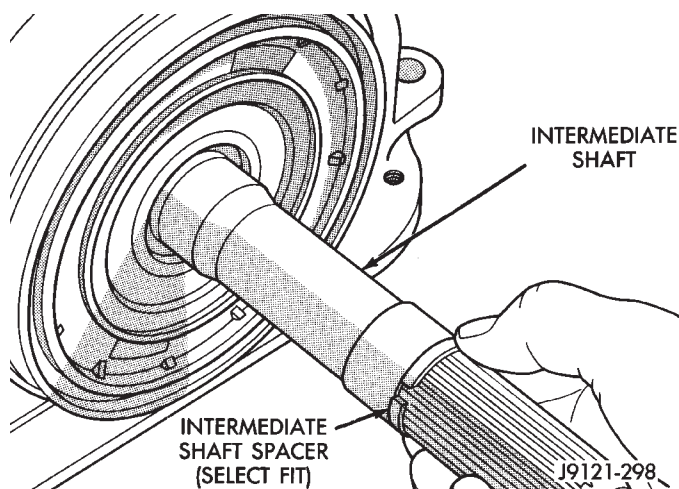

Fig. 194 Intermediate Shaft Spacer Location
(2) Remove intermediate shaft spacer (Fig. 194). Retain spacer. It is a select fit part and may possibly be reused.